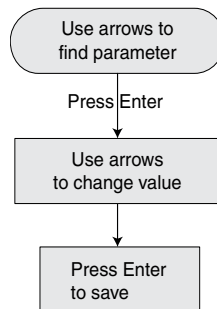

Figure 12 – Changing parameter value.
- Follow the keypress sequence shown in Figure 12: